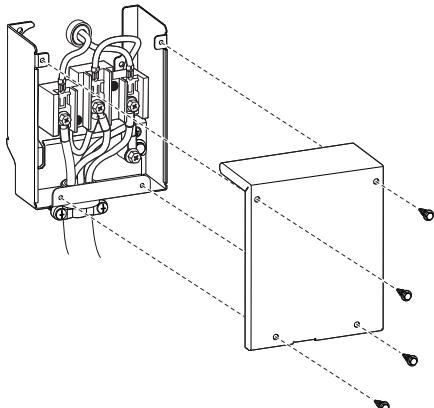

Figure 3 - Remove the cover plate
- 2. Remove the cover plate from the lower left corner of the back of the dryer. See figure 3.**